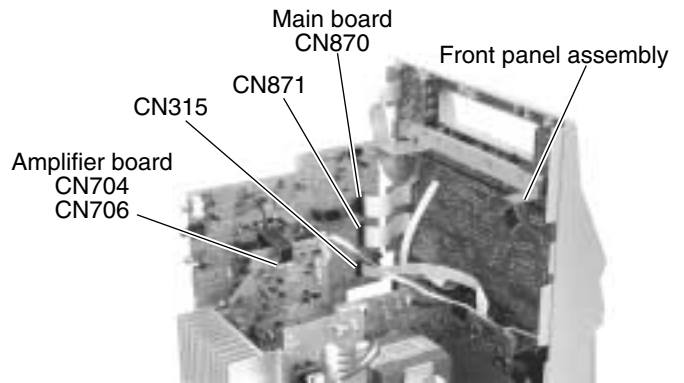

Fig.17
■ Removing the main board (See Fig.17 and 18)